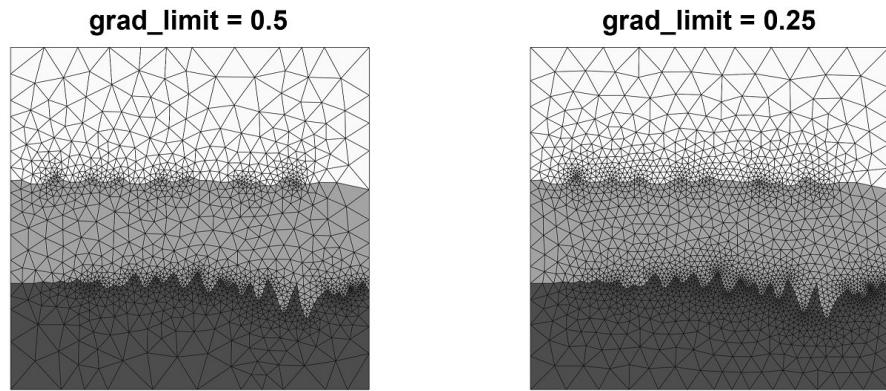

Figure 10: Effect of *Gradient-limit*
- *Gradient-limit*: A limit on the gradient of mesh-size function (Figure 10).7 Type: Float. Range:  $> 0$ . Typical value: 0.15 - 0.5.